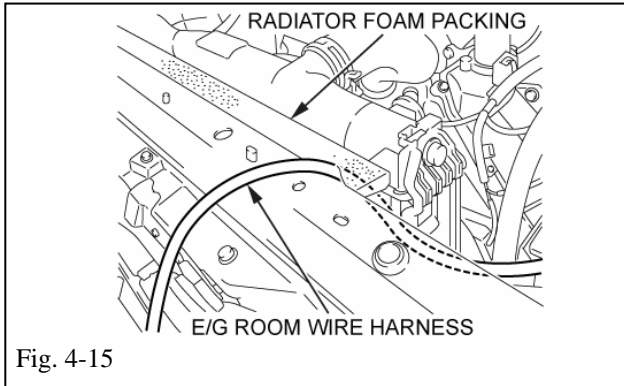

Fig. 4-15
- (p) Route the E/G R W across the front area of the radiator and carefully guide the E/G R W under the radiator foam packing. (Fig. 4-15)